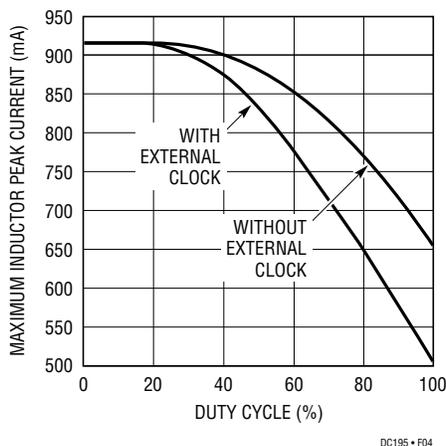

Figure 5. Maximum Inductor Peak Current Vs Duty Cycle
Slope compensation provides stability by preventing subharmonic oscillations. It works by internally adding a ramp to the inductor current signal at duty cycles in excess of 40%. As a result, the maximum inductor peak current is lower for $V_{OUT}/V_{IN} > 0.4$ than when $V_{OUT}/V_{IN} < 0.4$. See the maximum inductor peak current vs duty cycle graph in Figure 5.
0.7V , the LTC1627 begins operating. As the voltage on RUN/SS continues to increase from 0.7V to 1.8V , the internal current limit also increases at a proportional linear rate. The current limit begins at 25mA (at $V_{RUN/SS} \leq 0.7\text{V}$) and ends at the Figure 5 value ($V_{RUN/SS} \geq 1.8\text{V}$). The output current thus increases slowly, charging the output capacitor. If RUN/SS has been pulled all the way to ground, there is a delay before starting of approximately $310\text{ms}/\mu\text{F}$, followed by an additional $490\text{ms}/\mu\text{F}$ to reach full current. $C_{SS} = 0.1\mu\text{F}$ on this PC board.